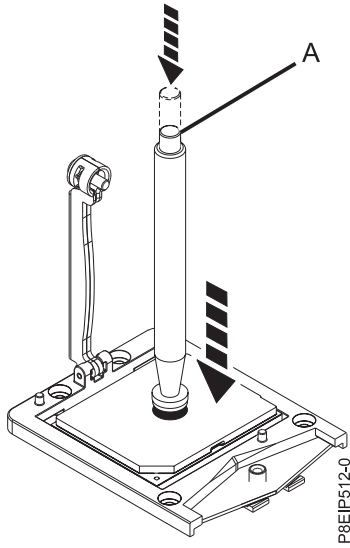

Figure 79. Locking the vacuum pen to the system processor module
- Lower the vacuum pen tool onto the system processor module. Fully press the top of the pen (A) and hold the pen in the center of the processor module as shown in Figure 79 on page 65. Release the top of the pen to fasten the pen onto the processor module.